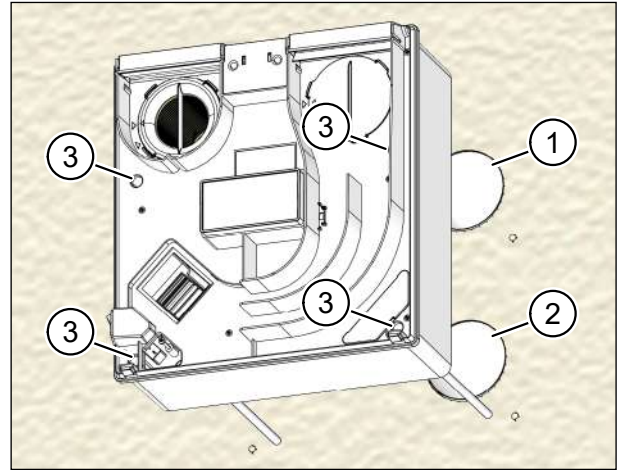

Fig. 37: Fixing the ventilation unit – surface-mount installation
- ▶ Attach the ventilation unit so that the air spigots are lined up with the outdoor air pipe (item 1 in Fig. 37) and exhaust air pipe (item 2 in Fig. 37).
- ▶ Use the four 5 x 120 mm cross-head screws (item 3 in Fig. 37) to fix the ventilation unit in the dowels (item 4 in Fig. 37) on the wall. **Lightly** tighten the screws using a diagonal sequence.